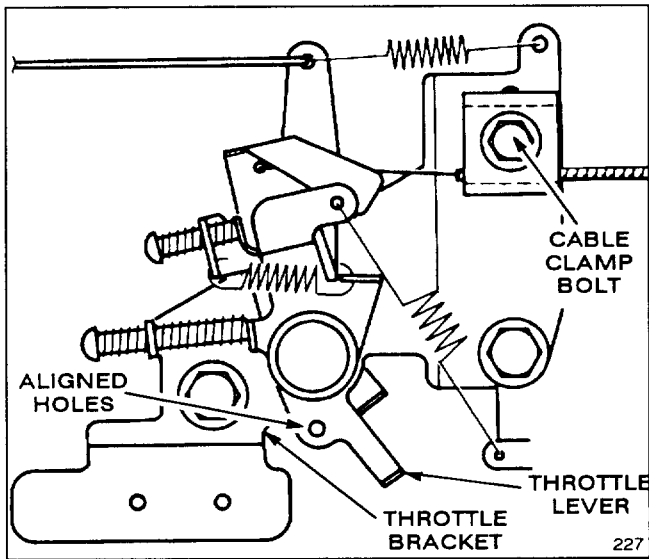

Figure 12
2. Loosen cable clamp bolt until throttle cable slides (Fig. 12). Align holes in throttle lever and throttle bracket. Pull throttle cable slightly to remove any slack and tighten cable clamp bolt to lock adjustment in place.